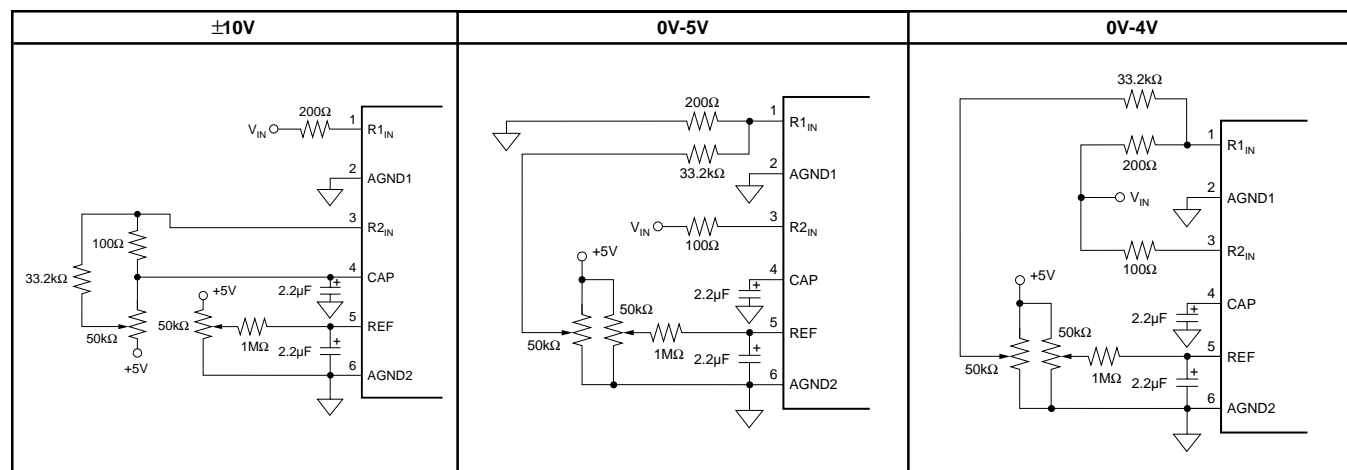
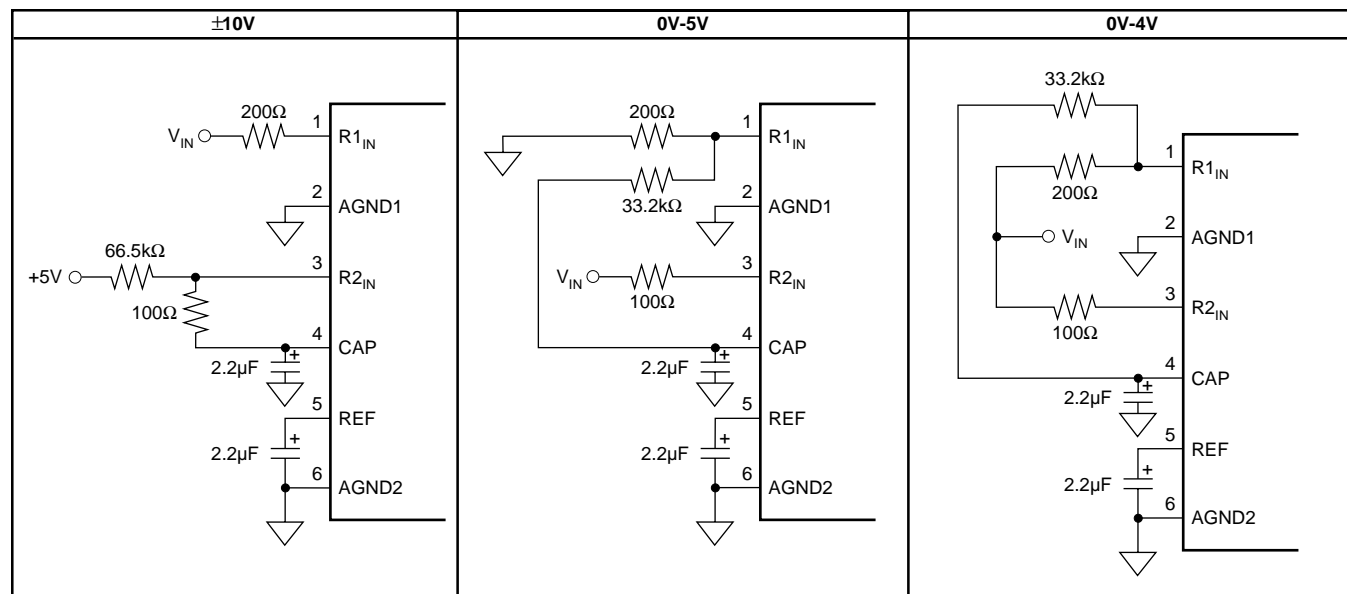
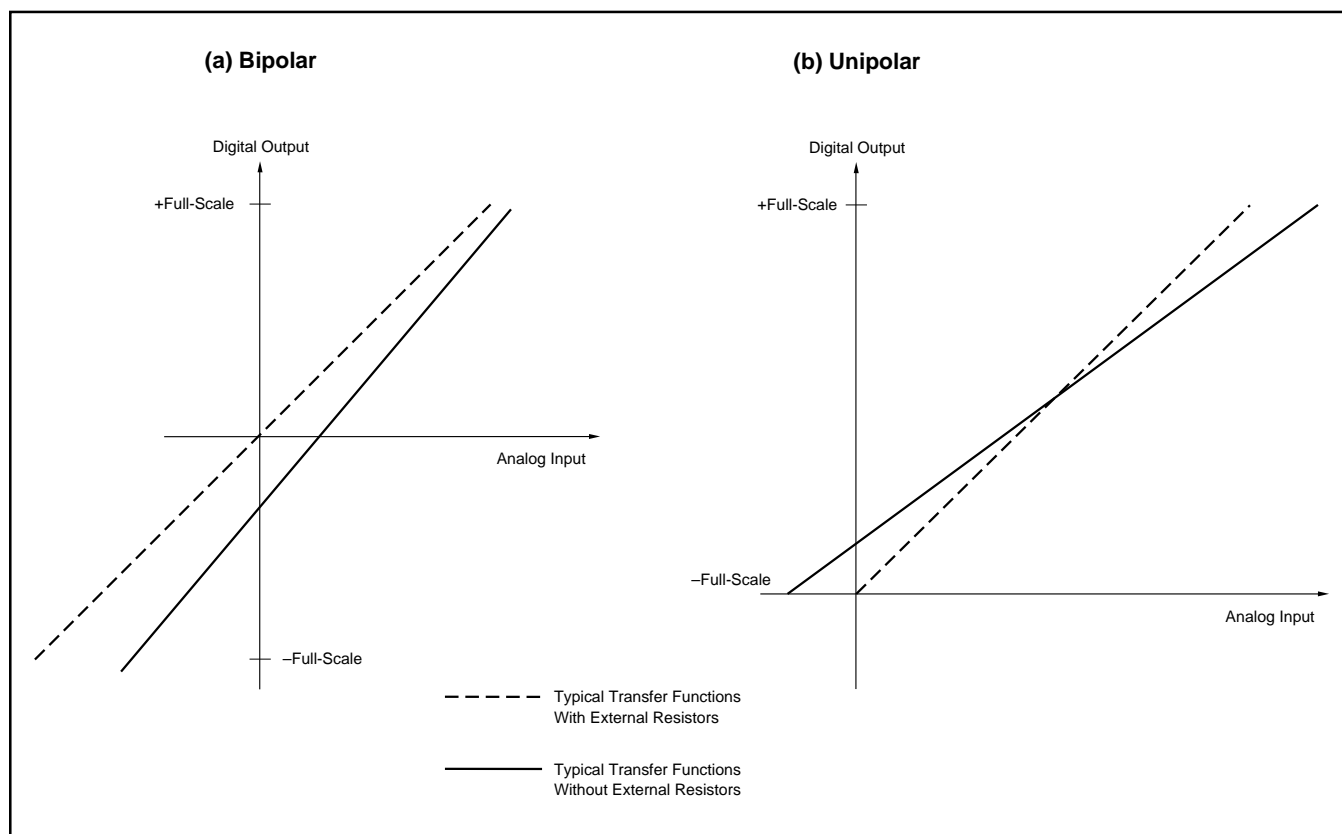

FIGURE 7a. Circuit Diagrams (With Hardware Trim).
FIGURE 7b. Circuit Diagrams (Without Hardware Trim).
FIGURE 8. Typical Transfer Functions With and Without External Resistors.
The ADS7807 offers three input ranges: standard  $\pm 10V$  and 0V-5V, and a 0V-4V range for complete, single-supply systems. See Figures 7a and 7b for the necessary circuit connections for implementing each input range and optional offset and gain adjust circuitry. Offset and full-scale error(1) specifications are tested with the fixed resistors, see Figure 7b. Adjustments for offset and gain are described in the Calibration section of this data sheet.
used for each input range (see Figure 8). The input resistor divider network provides inherent over-voltage protection to at least  $\pm 5.5\text{V}$  for  $R_{2\text{IN}}$  and  $\pm 12\text{V}$  for  $R_{1\text{IN}}$ .
To calibrate the offset and gain of the ADS7807 in hardware, install the resistors shown in Figure 7a. Table VI lists the hardware trim ranges relative to the input for each input range.
To calibrate the offset and gain in software, no external resistors are required. However, to get the data sheet specifications for offset and gain, the resistors shown in Figure 7b
TABLE VI. Offset and Gain Adjust Ranges for Hardware Calibration (see Figure 7a).
Figure 7b shows circuit connections. Note that the actual voltage dropped across the external resistors is at least two orders of magnitude lower than the voltage dropped across the internal resistor divider network. This should be consid-
The external resistors, see Figure 7b, may not be necessary in some applications. These resistors provide compensation for an internal adjustment of the offset and gain which allows calibration with a single supply. Not using the external resistors will result in offset and gain errors in addition to those listed in the electrical characteristics section. Offset refers to the equivalent voltage of the digital output when converting with the input grounded. A positive gain error occurs when the equivalent output voltage of the digital output is larger than the analog input. Refer to Table VII for nominal ranges of gain and offset errors with and without the external resistors. Refer to Figure 8 for typical shifts in the transfer functions which occur when the external resistors are removed.